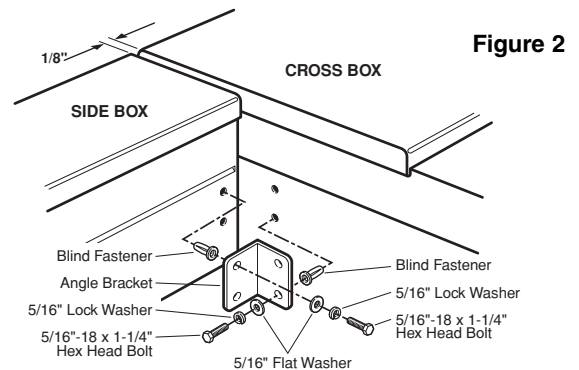

Figure 2
- Repeat leg placement and marking process for other leg. If installing side boxes with a saddle or cross box, the front leg can be replaced with an angle bracket (see Figure 2).